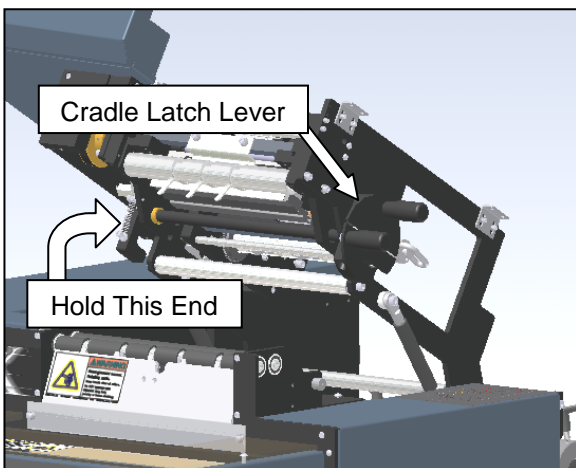

Figure 3-274. Reinstalling the Cradle Latch
4. Place the new cradle latch lever on the latch shaft, remembering to replace the nylon washer between the plate and the latch. Hold the opposite side of the latch shaft tight to the left plate, and tighten the latch lever into position (Figure 3-274).